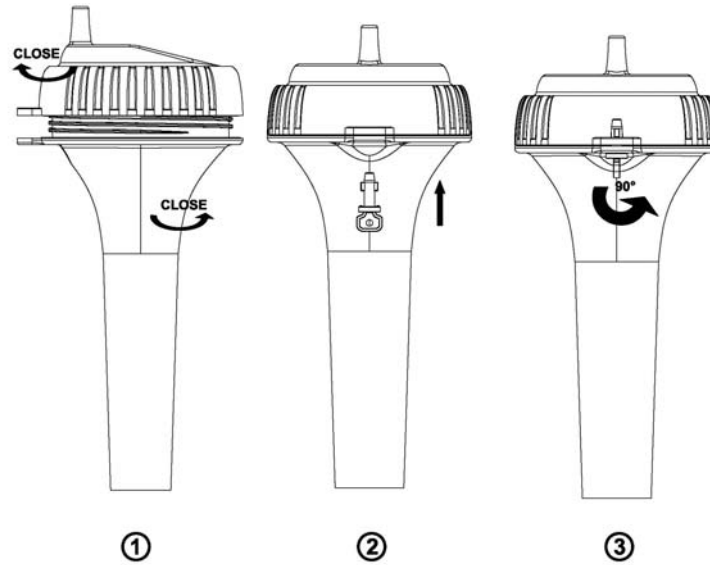

Figure 15
9. Twist the main of the sensor by lock the top cover, and twist the KEY lid to lock, as shown in Figure 15.